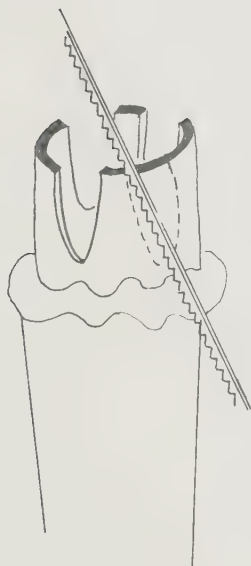

Fig. 41
3. Mount the tube on a stick in melted sealing wax. Claws can be cut by angling the saw and cutting one at a time, or by filing with a needle file. Keep them even. The size of the space between claws will vary with the shape of the stone. See Fig. 41.